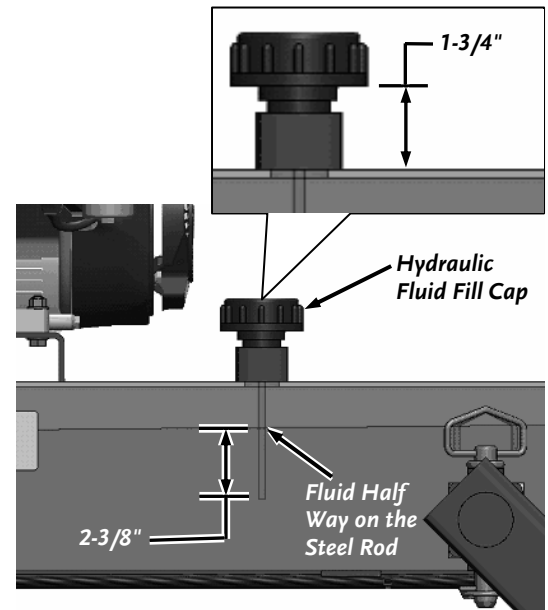

Figure 35
8. Remove the Hydraulic Tank Fill Cap/Dipstick and fill the Hydraulic Tank with the recommended type of hydraulic fluid until the level is at the middle (2-3/8" up from the bottom) of the Steel Rod. Do not deviate more than 1/2" up or down from that point (**Figure 35**).
9. Remove the Hydraulic Tank Fill Cap/Dipstick and fill the Hydraulic Tank with the recommended type and quantity of hydraulic fluid until the level reaches the fluid full measurement on the Dipstick (**Figure 35**).
TIP: Check the Fluid level by removing the Hydraulic Fluid Filler Cap and wiping the steel rod of the Dipstick with a clean Rag or Paper Towel. Reinsert and tighten the Cap to the proper position (1-3/4" from the bottom of the Cap to the top of the Tank) (New Figure 35). Remove the Cap and lay the Steel Rod onto a dry Paper Towel or Rag and a wet mark will show the Fluid level.